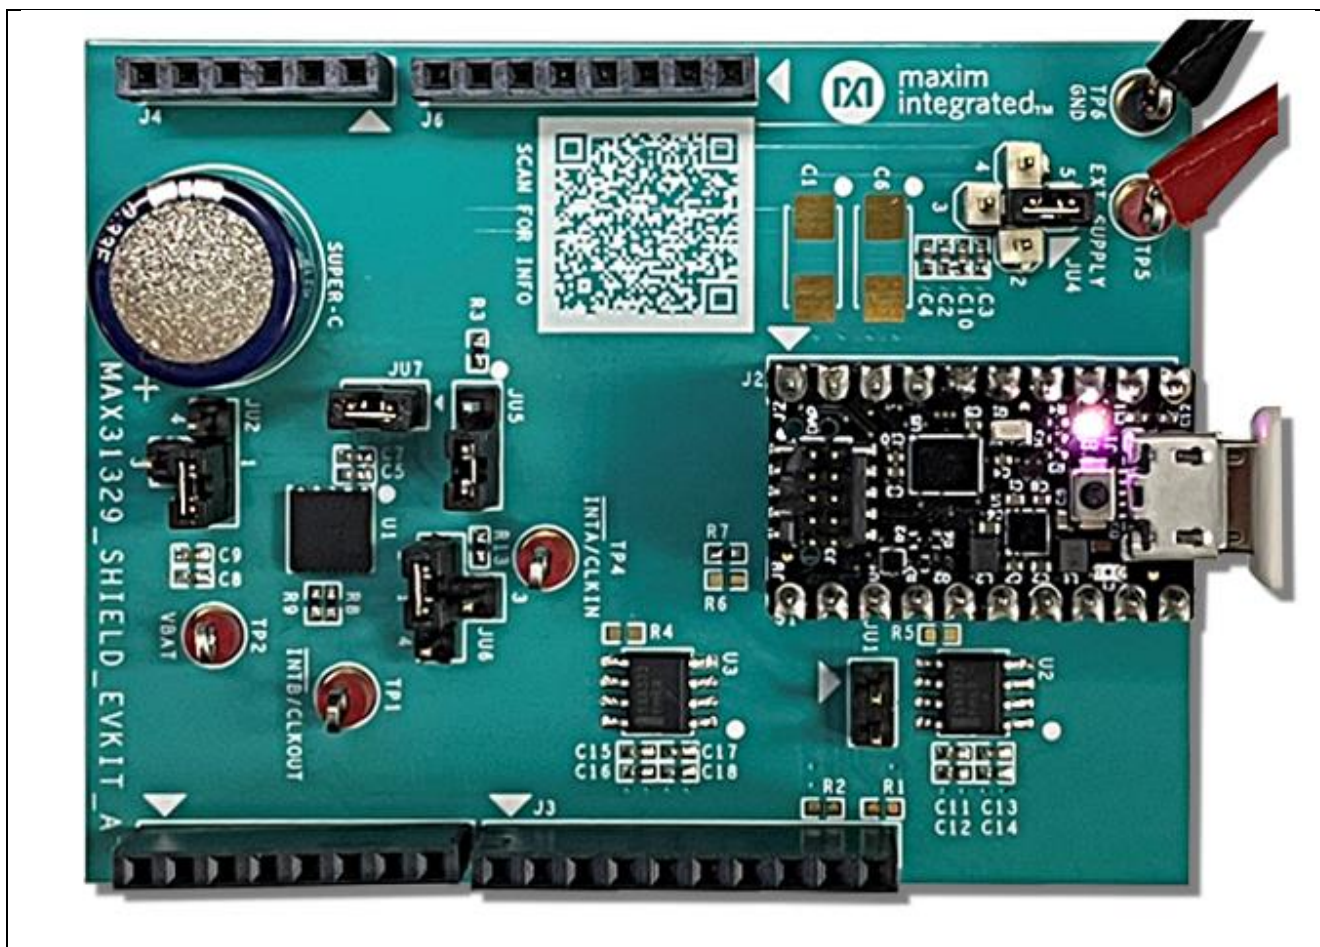

Figure 1. Connection and Setup
3. Connect the MAX32625 PICO board and a +1.6V to +5.5V supply to the shield at the location shown as in Connection and Setup as shown in Figure 1.